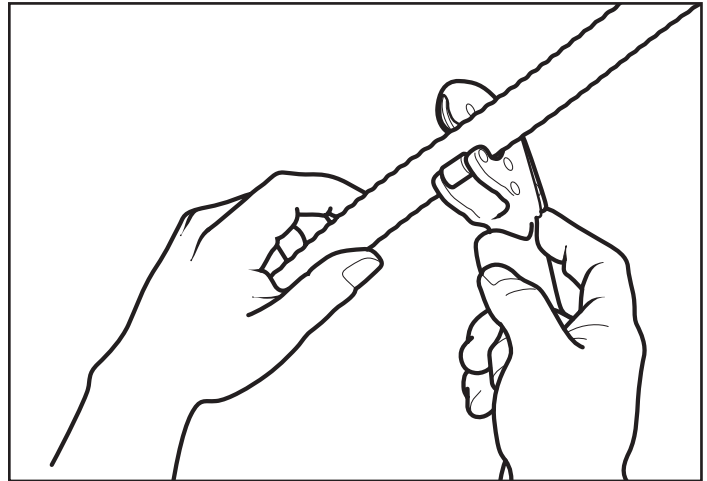

Figure: 4-2
1. CUT-TO-LENGTH: Determine proper length plus approx. two inches. Make a rough cut through plastic jacket and stainless tube using a tube cutter with a sharp wheel. Cut must be centered between two corrugations. Use full circular strokes in one direction and tighten roller pressure slightly (a quarter turn) after each revolution. **DO NOT OVERTIGHTEN ROLLER**, which may flatten tube. Figure: 4-2